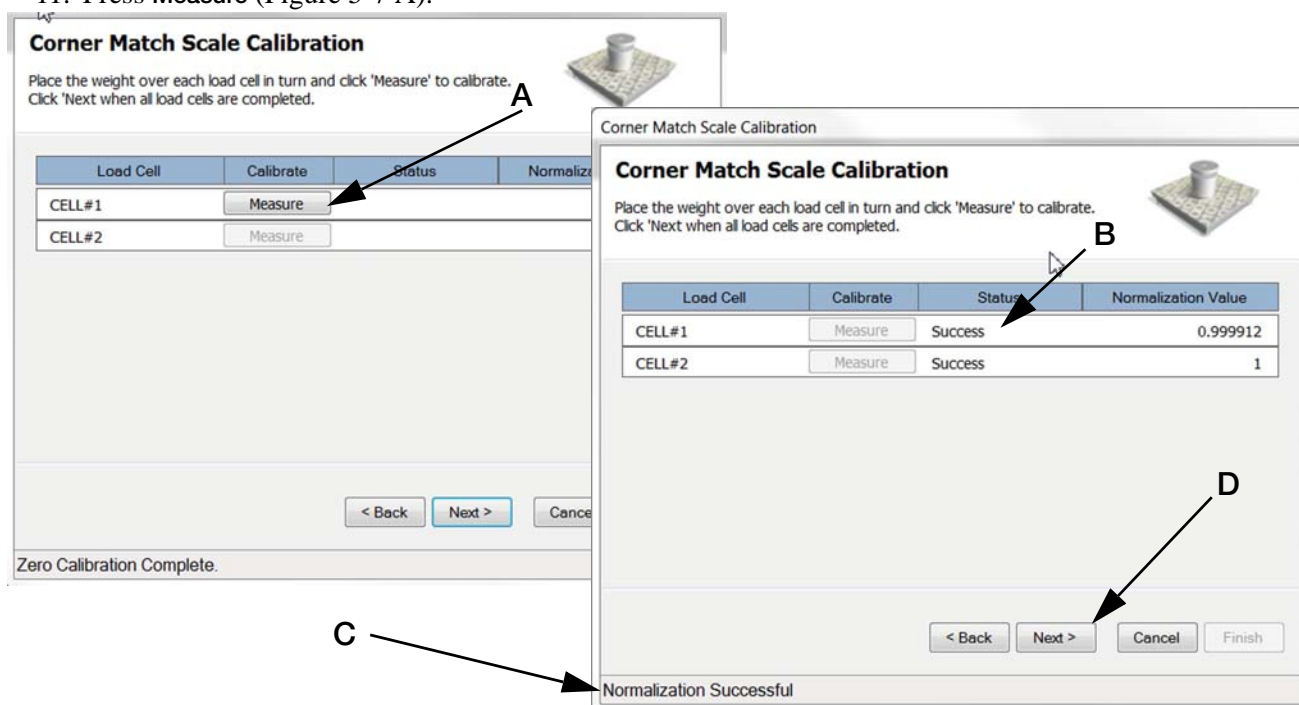

Figure 5-7. Load Cell Calibration
11. Press **Measure** (Figure 5-7 A).
12. Load Cell #1 status will read *Success* (Figure 5-7 B) and Load Cell #2 *Measure* will become available. Repeat steps 9-11 for Load Cell #2.
13. When both load cells have been calibrated (status reads *Success* for both Cell #1 & #2, Figure 5-7 B) and the *Normalization Successful* message appears (Figure 5-7 C) press **Next** (Figure 5-7 D).